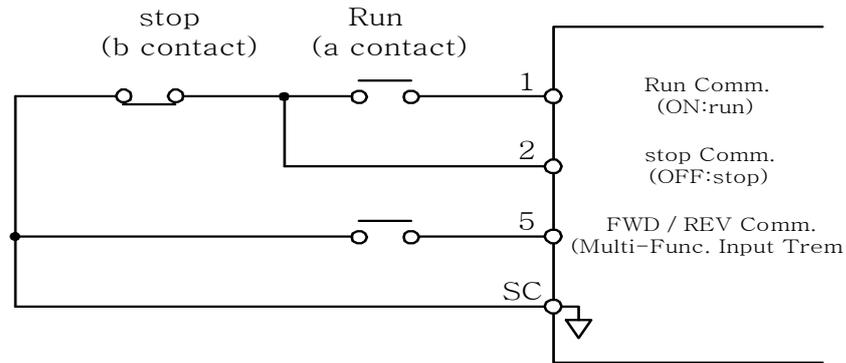

Fig 38 3-wire mode connection diagram
- Under 3-wire initialization mode (Sn-03= 8 or 10 or 12) , the multi-function input terminals ⑤~⑧ have function setting “00”, the inverter will be in the 3-wire mode operation. As shown in Fig 38, the Forward/Reverse change mode is set at the terminal ⑤.